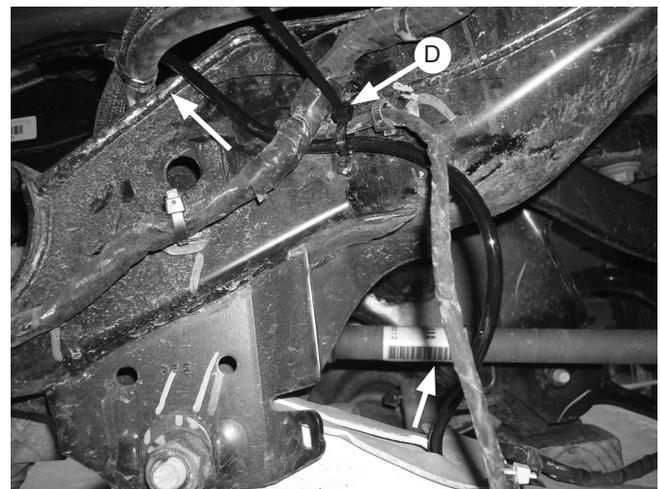

Fig. 6
6. On the passenger's (right) side, route the air line up, behind and to the center above the suspension crossmember (fig. 6). Secure with a zip tie (D). Leave sufficient slack for the suspension articulation.